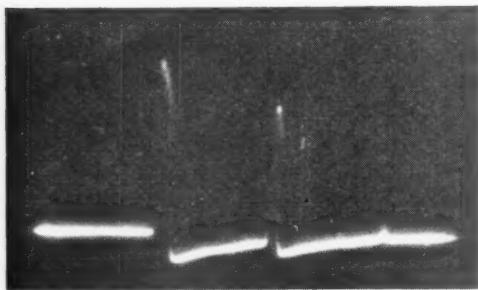

Figure 1. The oscilloscope pattern showing the direct (ground), F and two times F pulses. Linear sweep was used. Height 306 km.
Figure 1 shows an oscillogram of the pulse output from the receiver in use at the station. The transmitter being received had 200 watts peak pulse output and was located about 200 yards from the receiver. The transmitted pulse length was 100 microseconds. In order to minimize the direct signal from the transmitter with respect to the reflected signal from the ionosphere, the transmitting and receiving antennas were both horizontal and turned end to end. Obviously the antenna systems should have maximum directivity straight up when a signal is to be reflected from the ionosphere, and the direct (ground) wave should be reduced as much as possible. A vertical antenna *must not* be used.
Figure 1 also shows F-region reflections. The first reflection is the first ionosphere pulse returned from a height, $h_F = 306$ kilometers. The second reflection is produced by the pulse wave reflected twice from the same (F) region. It traveled from the earth to the F region, back to the earth, where it was reflected back to the F region again, and then back to the receiver. This made two complete round trips to the F region. The second reflection, therefore, appears as though it came from a region of height equal to twice h_F (the height of the F region) or 612 km.
Any ordinary oscilloscope with or without a linear sweep circuit may be used. A one-inch tube is satisfactory, but it will be found that at least a two-inch screen gives much greater definition. Figure 1 was photographed on a standard three-inch tube using direct connection to the vertical deflection plates and amplified 60-cycle synchronized linear horizontal sweep.
Figure 1. Perspective view of remodeled 32-F r.f. unit, showing revised tube and coil layout. The sawed-off tube shield to the left of the crystal houses the 20-meter 53 doubler coil, which is permanently left in the circuit though used only for 10-meter operation of the final amplifier.